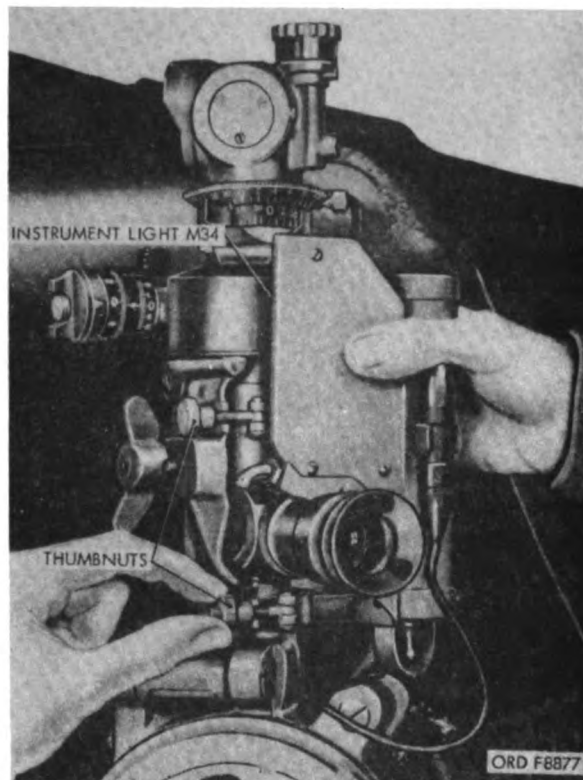

Figure 35. Installing instrument light M34 on telescope socket.
*c. Instrument Light M34.* The instrument light M34 (fig. 35) is used for illuminating the reticle of the panoramic telescope M12A7C during night operation.